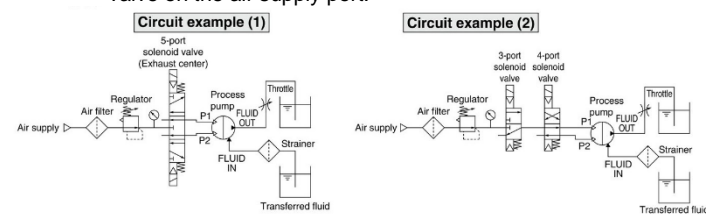

Fig 4. Air Operated Circuit Examples
< Starting and Stopping > Refer to circuit examples [Fig.4].
Note 2: For the solenoid valve, use an exhaust centre 5 port valve, or a combination of residual exhaust 3 port valve and a pump drive 4 port valve. If air in the drive chamber is not released when the pump is stopped, the diaphragm may be subjected to pressure and its life will be shortened. Refer to circuit examples (1) and (2) [Fig.4].